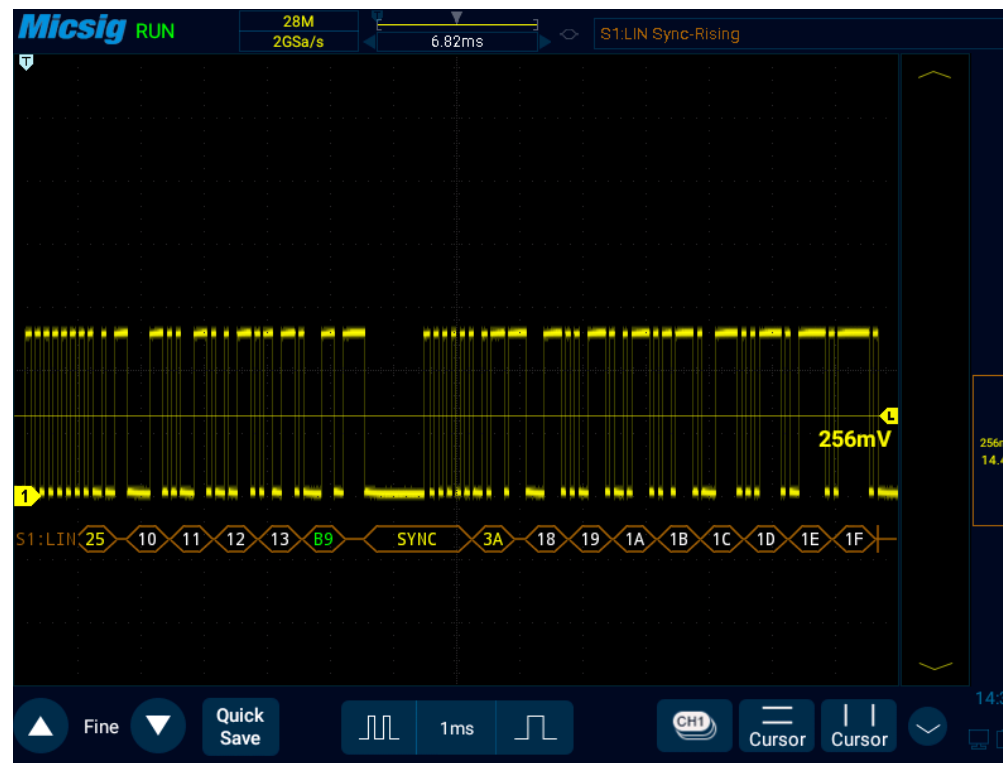

Figure 12-12 LIN Graphic Interface
- (1) Tap S1 to open the decode channel, and click again to open the bus configuration menu;
- (2) Select the bus type as “LIN”, click “Ch1”, “Idle High”, “19.20kb/s”, and then close the menu;
- (3) Open the trigger mode configuration menu and click “Sync-Rising”;
- (4) Click  configuration information to open the decode channel threshold level adjustment box, and drag the adjustment box upward and downward to adjust the threshold level; adjust the threshold level according to the signal amplitude level to make the signal stably triggered. The LIN trigger graphic interface is shown in Figure 12-12: